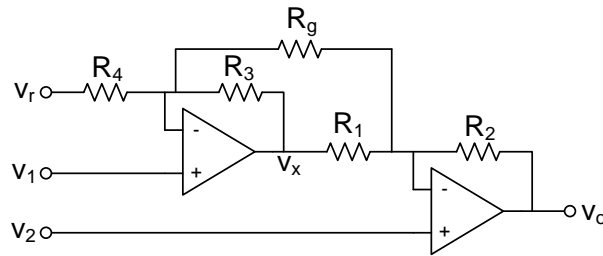
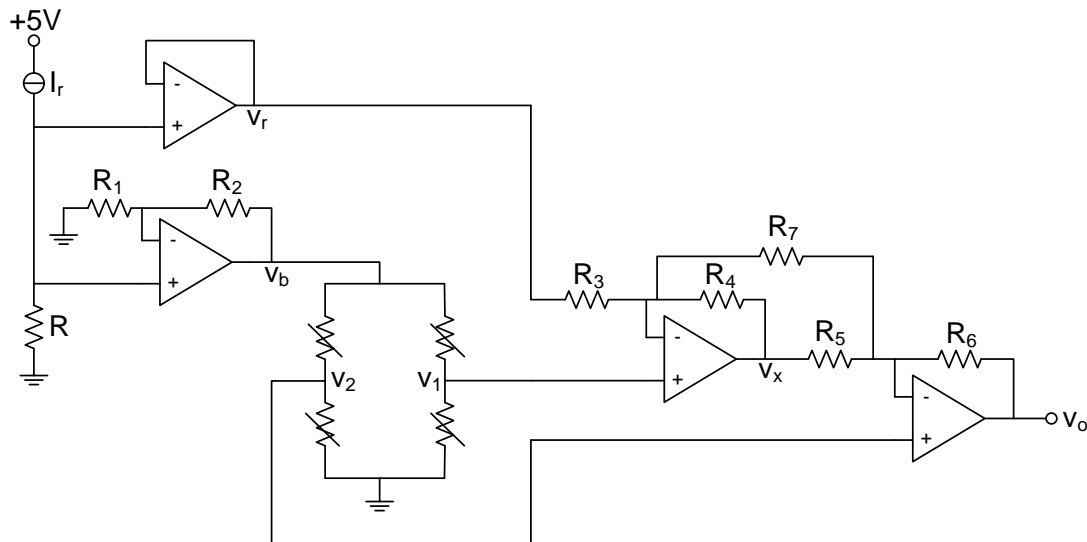

Figure 3: Instrumentation amplifier with two op-amps.
Figure 4: Signal processing circuit for a resistive pressure sensor.
An instrumentation amplifier is a differential amplifier who at the same time has a high input-impedance, a low output-impedance and a high common-mode rejection-ratio (CMRR). The gain of an instrumentation amplifier can typically be changed with a single resistor. Figure 3 shows an instrumentation amplifier that consists of two operational amplifiers. (You may assume that these op-amps have an ideal behavior.)
- (a) Show that the output voltage v_o of the instrumentation amplifier shown in Figure 3 is equal to:
The instrumentation amplifier from Figure 3 is used to amplify the output signal of a bridge circuit with four strain gauges (see Figure 4). The strain gauges each have a resistance R_0 of 4000Ω and a sensitivity of 1 mV/psi when a supply voltage of 12 V is placed across the strain gauges. The current source delivers a stable current $I_r = 100 \mu\text{A}$.